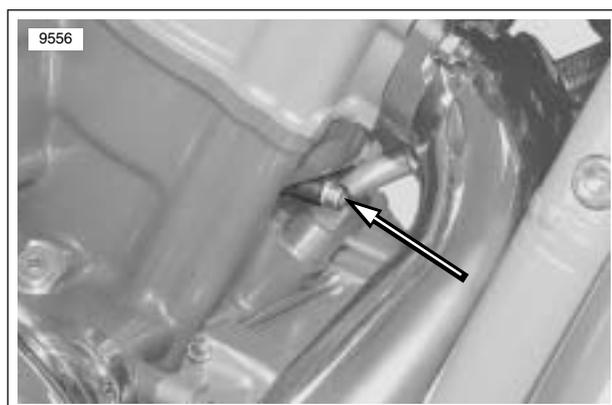

Figure 2-14. Front Cylinder Coolant Drain Plug
32. See Figure 2-14. Finish draining coolant by removing front cylinder coolant drain plug. Reinstall front cylinder coolant drain plug and tighten to 9.7 Nm (86 in-lbs).